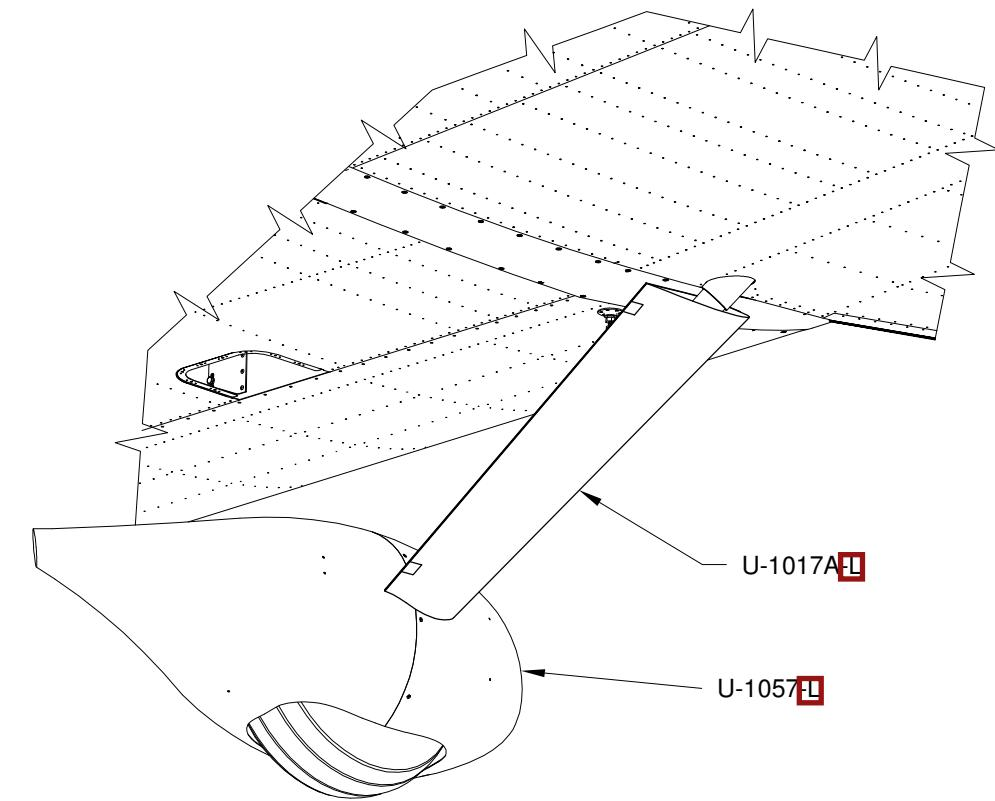

FIGURE 2: INSTALLING GEAR LEG FAIRINGS
Step 3: Place the trimmed U-1017A_{FL} Gear Leg Fairing on the gear leg as shown in Figure 2. Clamp the trailing edge closed with two or three spring clamps.